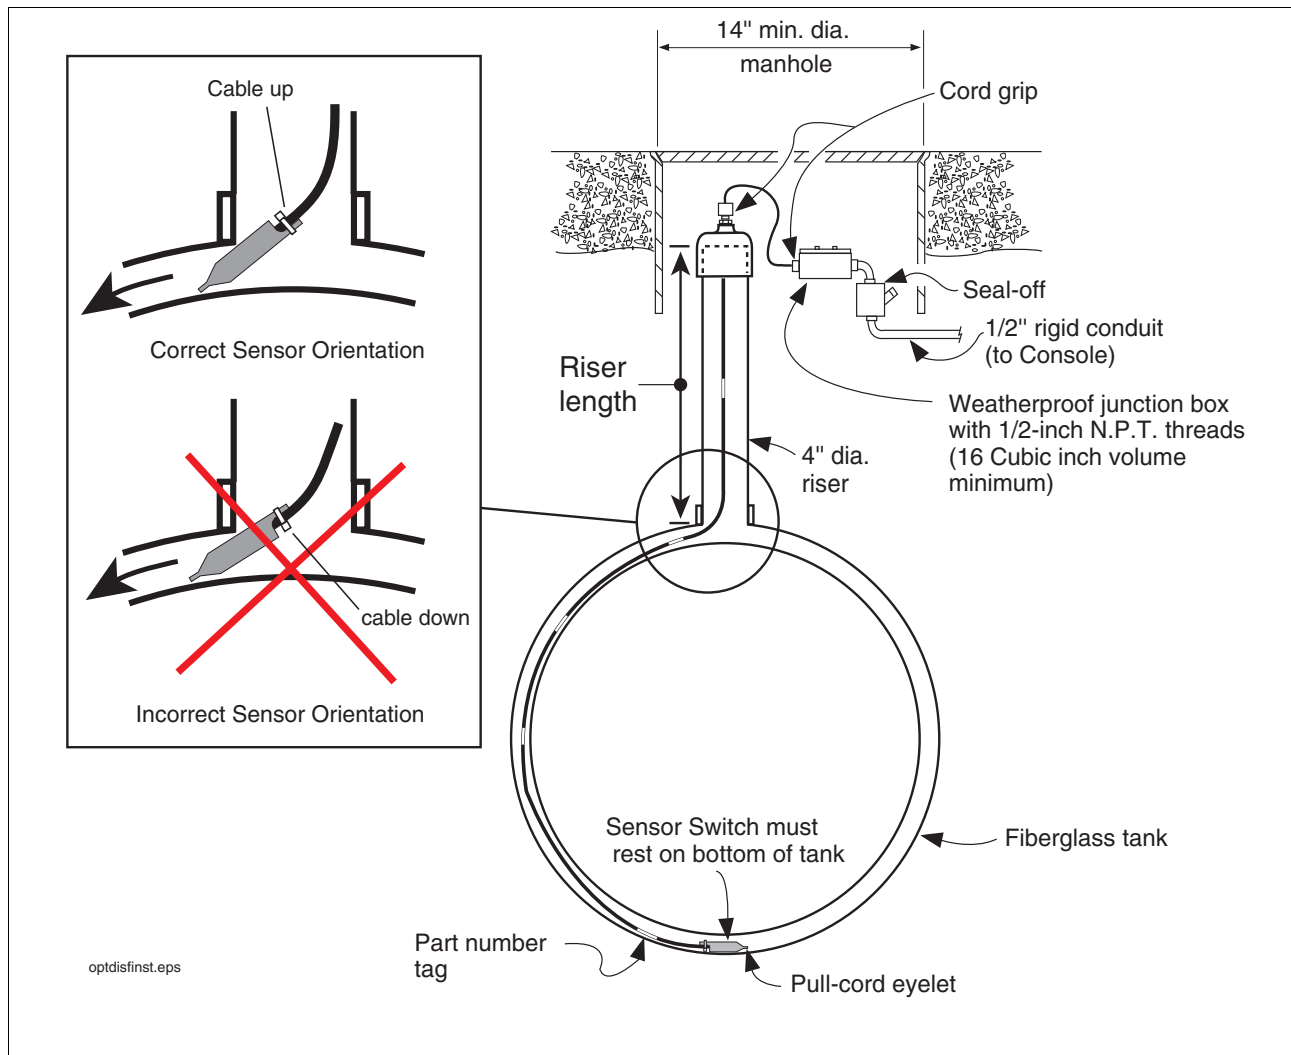

Figure 1. Sensor installation example
3. Measure the length of the riser pipe as shown in Figure 1.
5. Attach a pull cord to the eyelet in the sensor and after confirming correct orientation of sensor (ref. Figure 1), pull the sensor through the interstitial space until the cable mark tie-wrap is even with the top of the riser pipe. All sensor types should rest at the bottom of the tank as shown.